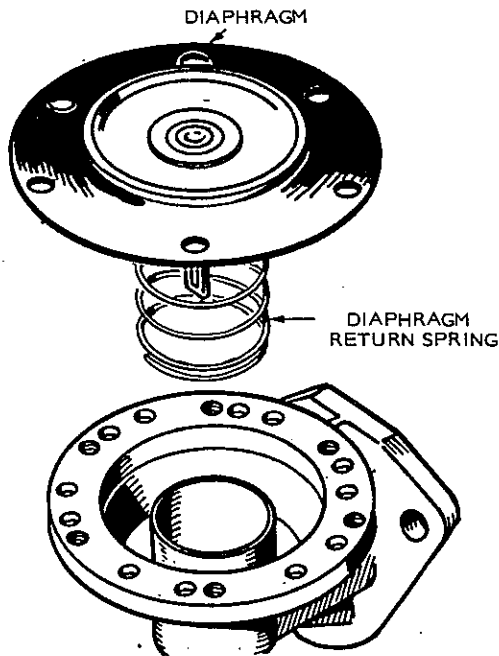

FIGURE 7-4. POSITIONING FUEL PUMP DIAPHRAGM
- c. Position fuel pump diaphragm and spring assembly into pump body as shown in Figure 7-4.